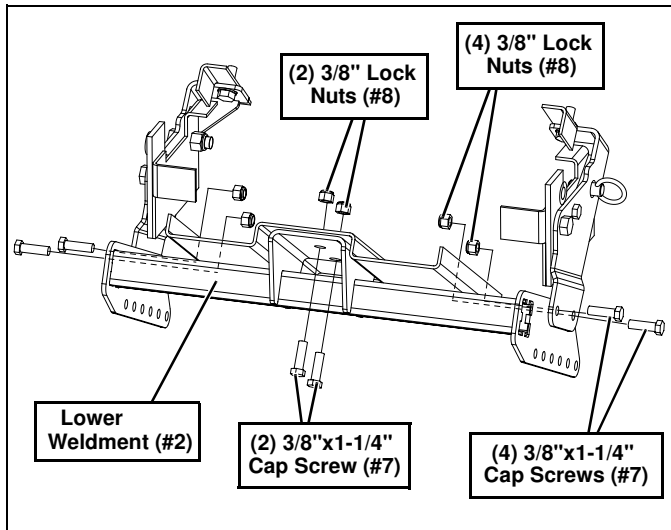

Figure 10
22. Align the front holes of the Lower Weldment (#2) with the holes in the front skid plate. Insert (2) 3/8"-16x1-1/4" Cap Screws (#7) and secure with (2) 3/8"-16 Lock Nuts (#8). (See Figure 10.)
23. Insert (4) 3/8"-16x1-1/4" Cap Screws (#7) thru the lower side holes of the Upper Driver and Passenger Side Weldments (#3 & #4) and into the upper side holes of the Lower Weldment (#2). Secure with (4) 3/8"-16 Lock Nuts (#8). (See Figure 10.)